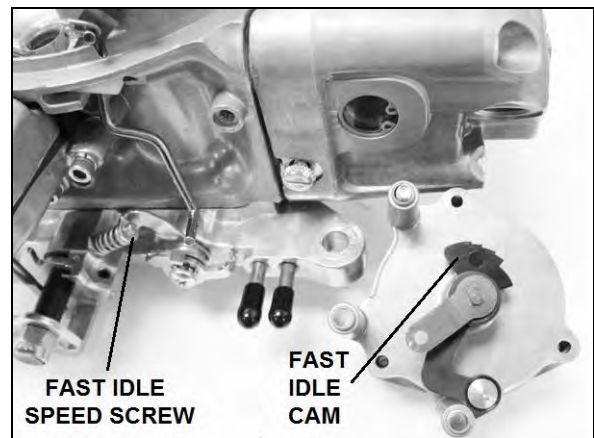

Figure 22
2. There are two primary adjustments: the fast idle speed screw and the choke timing. The choke idle speed screw controls how far the primary butterflies are open when the choke butterfly is closed or partially closed. It sets your fast idle. The screw is located on the bracket that is slipped over the throttle shaft, behind the choke pod (Fig. 22). This idle can be increased by turning the choke idle screw clockwise, or decreased by turning it counter-clockwise. It is important to note that when the choke butterfly is open completely (vertical up and down), the choke idle speed screw must not be holding the primary butterflies open at all. In other words, when the choke idle speed screw is in the deepest cut on the fast idle cam, it must not be hitting the fast idle cam.